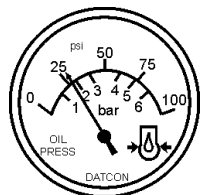

Figure 55. Oil Pressure Gauge
13. The engine oil pressure gauge (Figure 55) will indicate the oil pressure (kg/ cm²) of the engine. Under normal operating conditions the oil pressure should be approximately 25 psi.